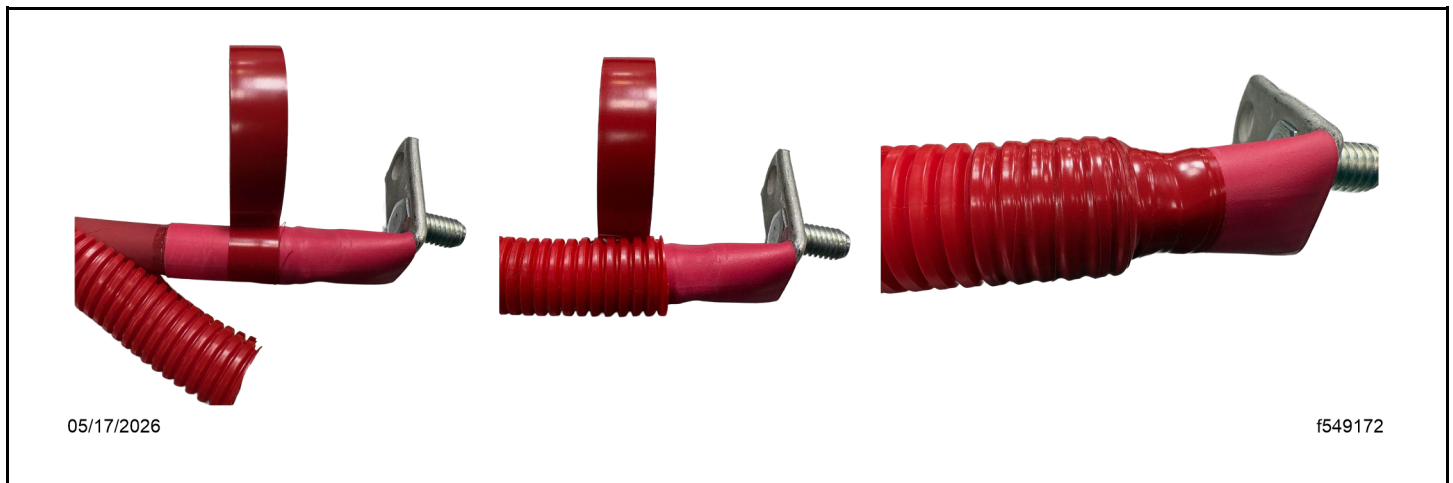

Fig 149, Installing the Convolute Cover
- d. Install the convolute cover by applying red electrical tape to cover the transition from the heat shrink to the convolute cover. See Fig. Fig. 149.